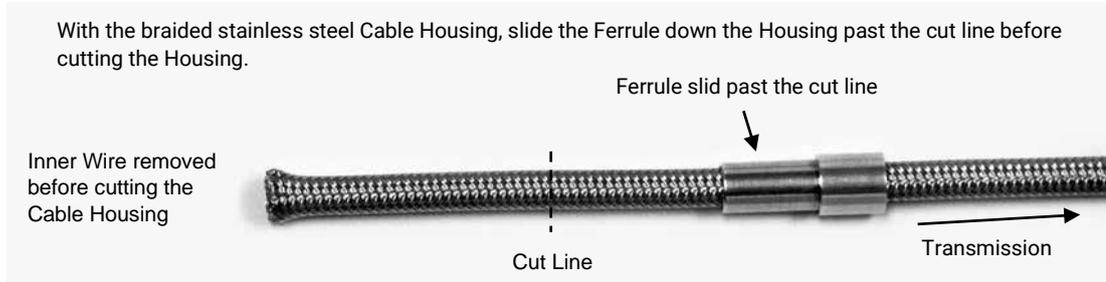

Figure 4
1. Remove the cable end stop, kickdown throttle body fitting, and kickdown cable adjuster from the new LKickdown Cable. DO NOT remove the ferrule from the cable housing. Fig. 4 Leave the kickdown mounting bracket on the kickdown cable adjuster. Remove the inner wire from the cable housing.